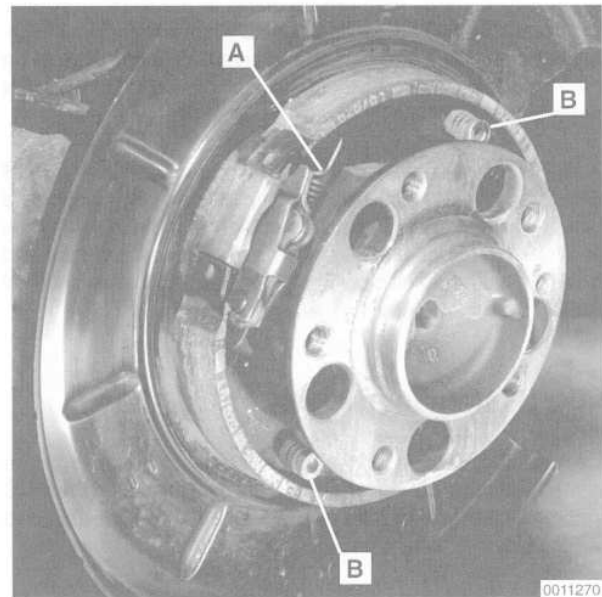

Fig. 18. Parking brake upper return spring (A) and shoe retainers (B).
3. Unhook the upper return spring from the brake shoes. Remove the shoe retainers by pushing them and rotating 90°. See Fig. 18.